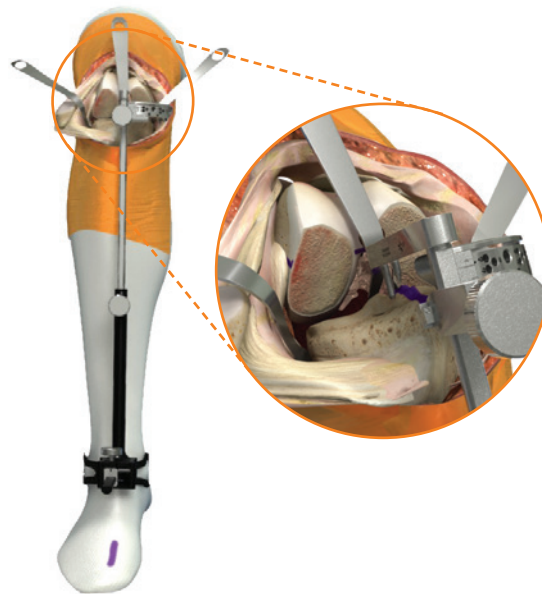

Figure 31
3. Place the ankle clamp around the patient's ankle distally, and proximally impact the posterior spike of the tibial spiked fixation rod into the ACL footprint to secure assembly (Figure 31).
4. Align the extramedullary tibial alignment guide parallel to the tibial axis in the coronal and sagittal planes. Rotate the assembly to the medial one-third of the tibial tubercle and impact the anterior spike of the up rod (Figure 31 and 32).